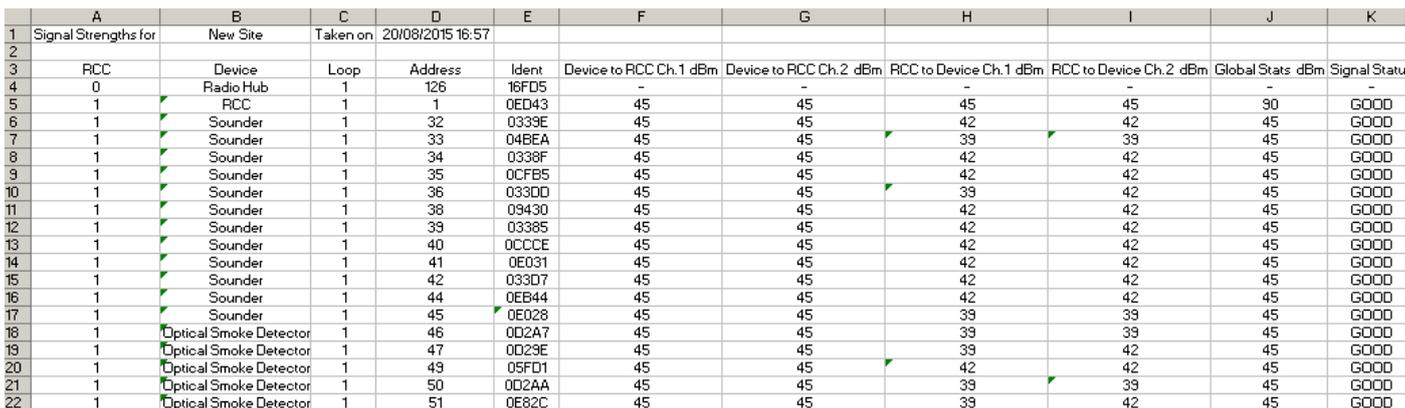

Figure 3
- Signal strength details for all devices can now be saved to a “.csv” file for electronic filing. The ability to record signal strengths and maintain the information in the system logbook, is now greatly enhanced. *See Figure 3*